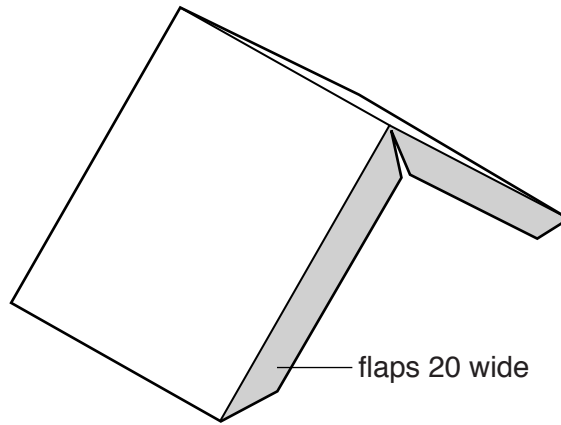

Fig. 17
- (c) Fig. 17 shows the back of the roof of the bird feeder. The flaps will be pop riveted to the main part of the bird feeder.